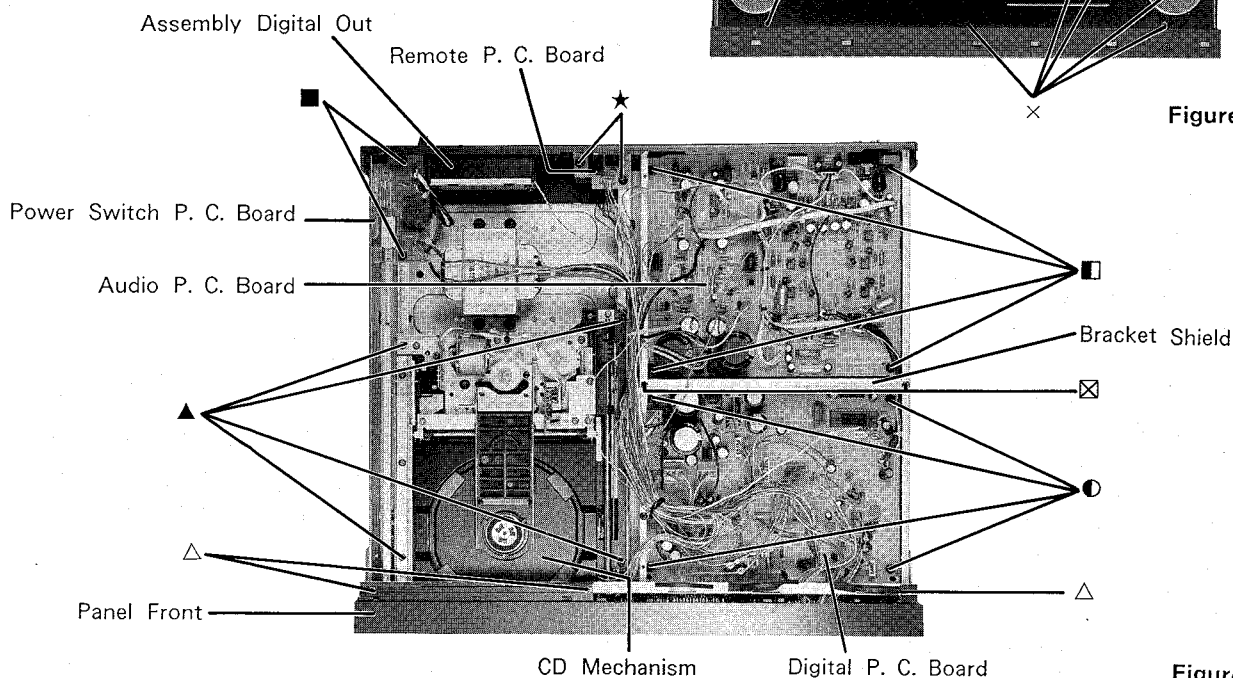

Figure 7
- (1) After removal of panel front, remove four screws marked "▲" as shown in Figure 7.
- (2) Disconnect all wires from CD Mechanism.
- (1) Remove two screw marked "■" as shown in Figure 7.
- (2) Disconnect all wires from Power Switch P.C. Board.
- (1) Remove two screws marked "★" as shown in Figure 7.
- (2) Disconnect the connector from Remote P.C. Board.
- (1) Remove two screws marked "⊠" as shown in Figure 7.
- (1) After removal of bracket shield, remove four screws marked "●" as shown in Figure 7.
- (2) Disconnect all wires from Digital P.C. Board.
- (1) Remove five screws marked "■" as shown in Figures 7 and 10.
- (1) After removal of top cover and bottom cover, remove ten screws marked "△" as shown in Figures 7 and 8.
- (2) Disconnect all connectors from FL-Keyboard P.C. Board, Volume/Switch P.C. Board, Head Phone P.C. Board and Power LED P.C. Board.
- (3) Panel front with each P.C. Board can be removed completely.